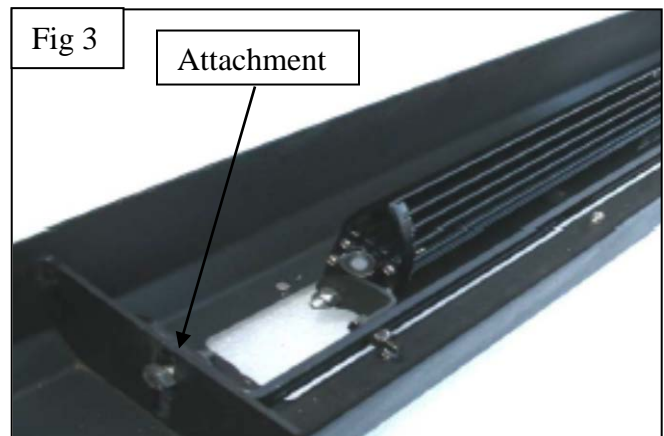

Fig 3
3. Place the grill guard face down and place the support flange with the LED attached into the center flange. Attach each side of the support flange to the inner brackets inside the center flange of the grill guard with (2) 8mm hex bolts, (2) 8mm flat washers, & (2) 8mm lock washers as seen in (Fig 3) Snug but do not tighten at this time.
- a. Cut out the lower portion of the indented area in both sides of the plastic bumper insert to clear the Brackets as pictured, **(Figures 3 & 4)**. **IMPORTANT:** Make several small cuts for best fit. **NOTE:** The plastic panel is held in place with several small screws. The screws at the top corners are difficult to impossible to reach and remove with the bumper in place without damaging the cover. If you prefer to remove the panel to cut out the openings, it may be necessary or easier to remove the plastic grille then the steel bumper assembly with the plastic panel attached to access all of the small screws and clips.
(Fig 3) "No tow hook" model pictured